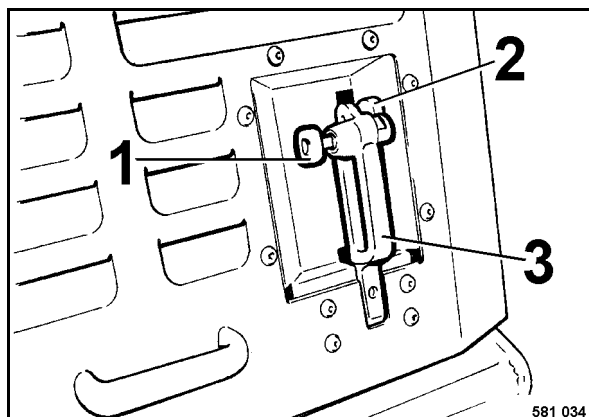

Fig. 46
- Unlock the lock 1 (Fig. 46).
- To unlock the hood press the latch (2) down and pull the handle (3) back.